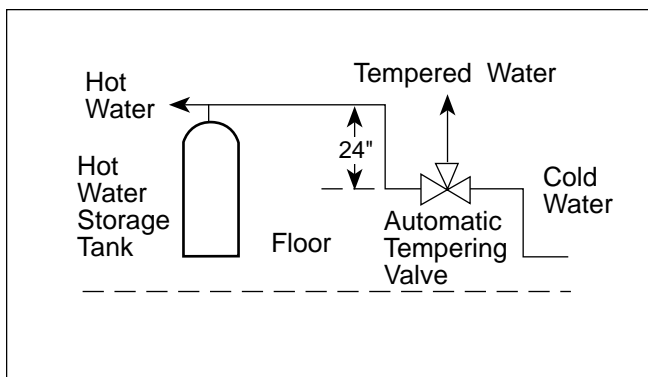

Figure 7. Tempering Valve Installation.
7. When installing a tempering valve, locate it at the bottom of the antithermosyphon loop at least 24" high to prevent excessive hot water from entering the mixed water supply (see Figure 7). Bring the cold water supply up from the floor to the valve.